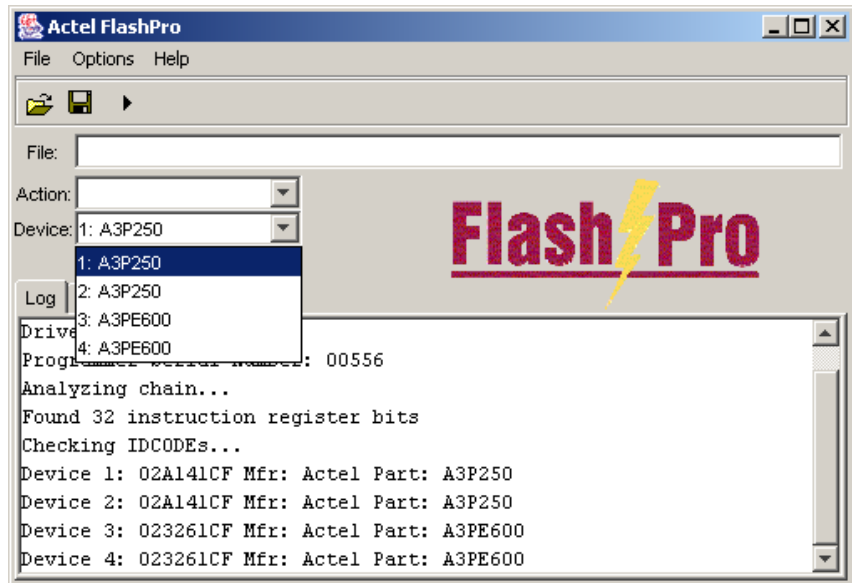

Figure 4-4. FlashPro: Device Selection
from the Device list. If you have multiple devices in the chain, you must select a device as shown in Figure 4-4.
**Note:** The first device, selected in Figure 4-4, is the device that is nearest to TDO of the programming header.